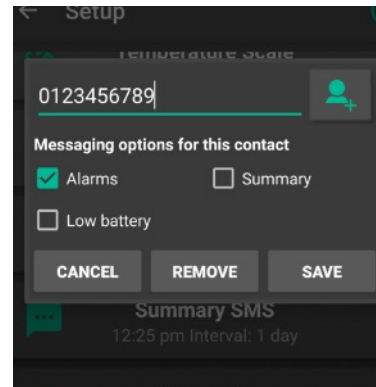

Fig. 10
- f. Input up to three contact numbers that this ELSMS device should notify, and select which messages they will receive (See Fig. 10).